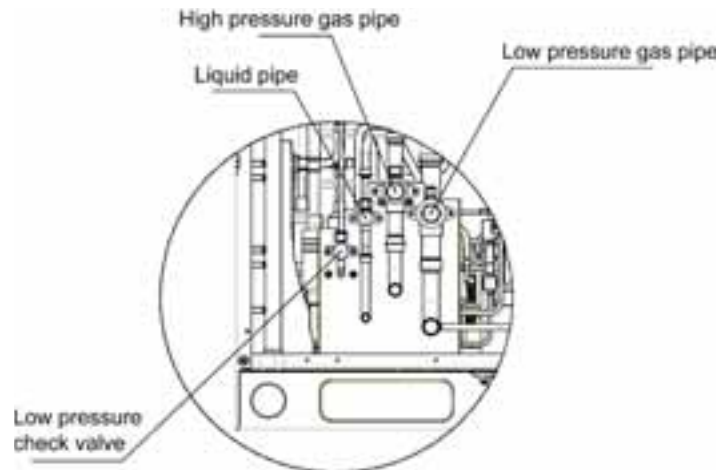

Fig.25
- (1) Confirm outdoor liquid and gas valves are closed. Attach vacuum pump to nozzle located on liquid and gas valves. See Fig.25.